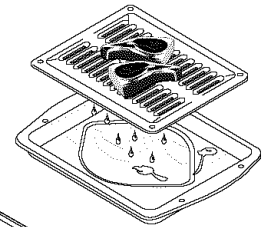

Fig. 1
5. Place the insert on the broil pan, then place the food on the insert (See Fig. 1). **DO NOT** use the broil pan without the insert or cover the insert with **aluminum foil**. The exposed fat could ignite.